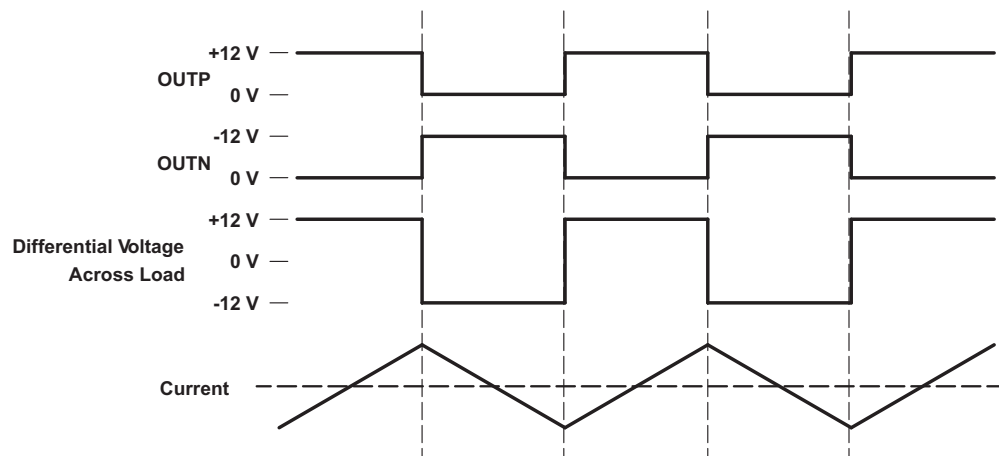

Figure 25. Traditional Class-D Modulation Scheme's Output Voltage and Current Waveforms into an Inductive Load With No Input
The TPA3122D2 operates in AD mode. There are two main configurations that may be used. For stereo operation, the TPA3122D2 should be configured in a single-ended (SE) half bridge amplifier. For mono applications, TPA3122D2 may be used as a bridge tied load (BTL) amplifier. The traditional class-D modulation scheme, which is used in the TPA3122D2 BTL configuration, has a differential output where each output is 180 degrees out of phase and changes from ground to the supply voltage, V_{CC} . Therefore, the differential pre-filtered output varies between positive and negative V_{CC} , where filtered 50% duty cycle yields 0 V across the load. The traditional class-D modulation scheme with voltage and current waveforms is shown in Figure 25.